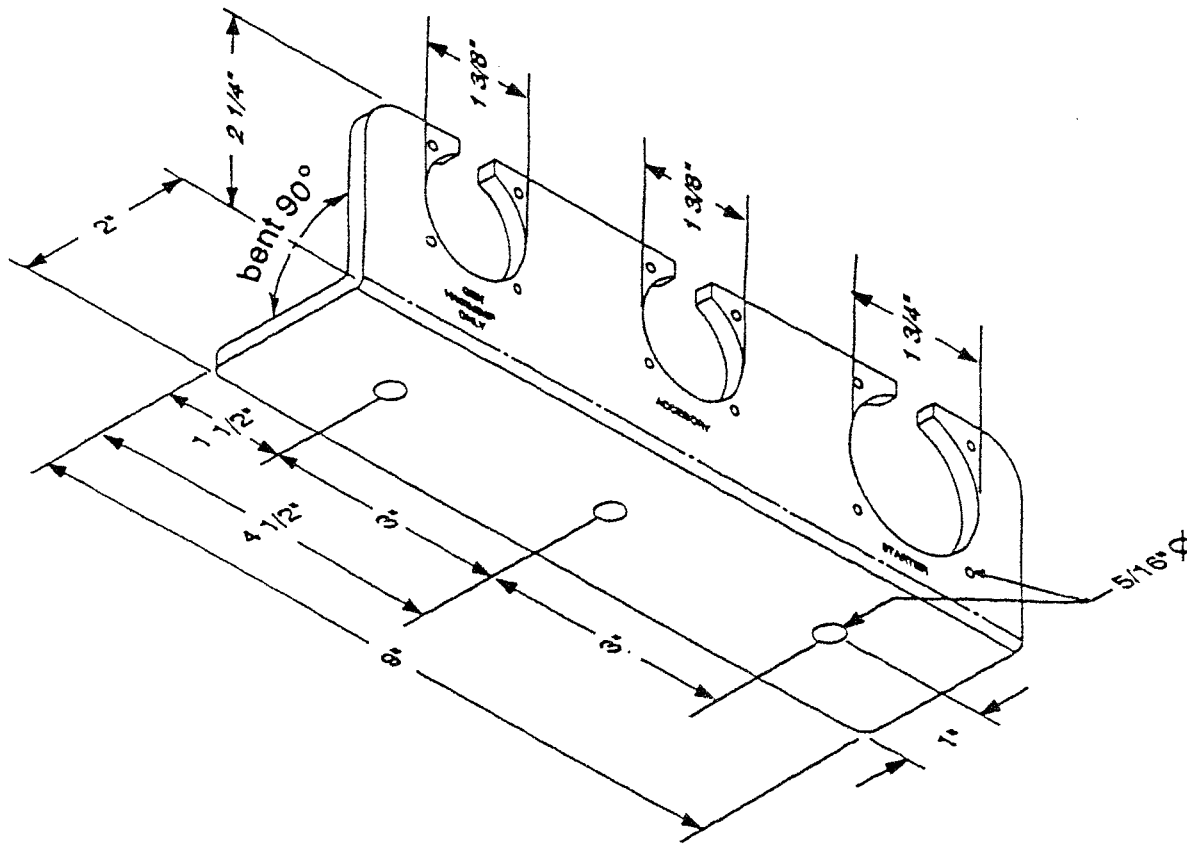

Figure 2-18. 100-Amp Connector Panel
1. Drill two 1-3/8-inch connector holes and eight 5/16-inch screw holes per Figure 2-18.
2. Drill 1-3/4-inch connector hole and four 5/16-inch screw holes per Figure 2-18.
3. Scribe identification information on panel or make labels per Figure 2-18.
4. Drill three 5/16-inch mounting holes spaced three inches apart. See Figure 2-18.
1. Measure from the M113A2 panel/bracket (Figure 2-18) to instrument panel/box (Figure 2-26).